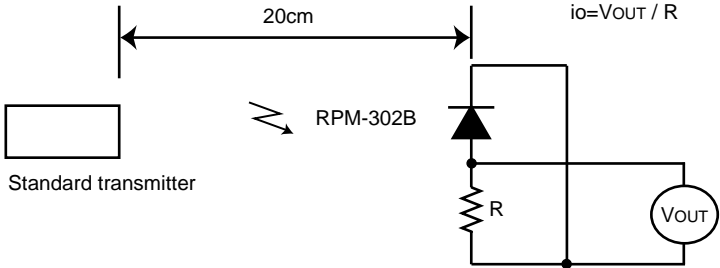

Fig.2 Measurement of standard transmitter proofreading
When standard transmitter output the signal at Fig.1 standard photodiode output become  $i_o=5\mu A_{p-p}$  under the measurement condition Fig.2.
- (1) All characteristics of the receiver in this specification are specified by supplying burst wave form (Fig.1) with ROHM standard transmitter (Fig.2 ).